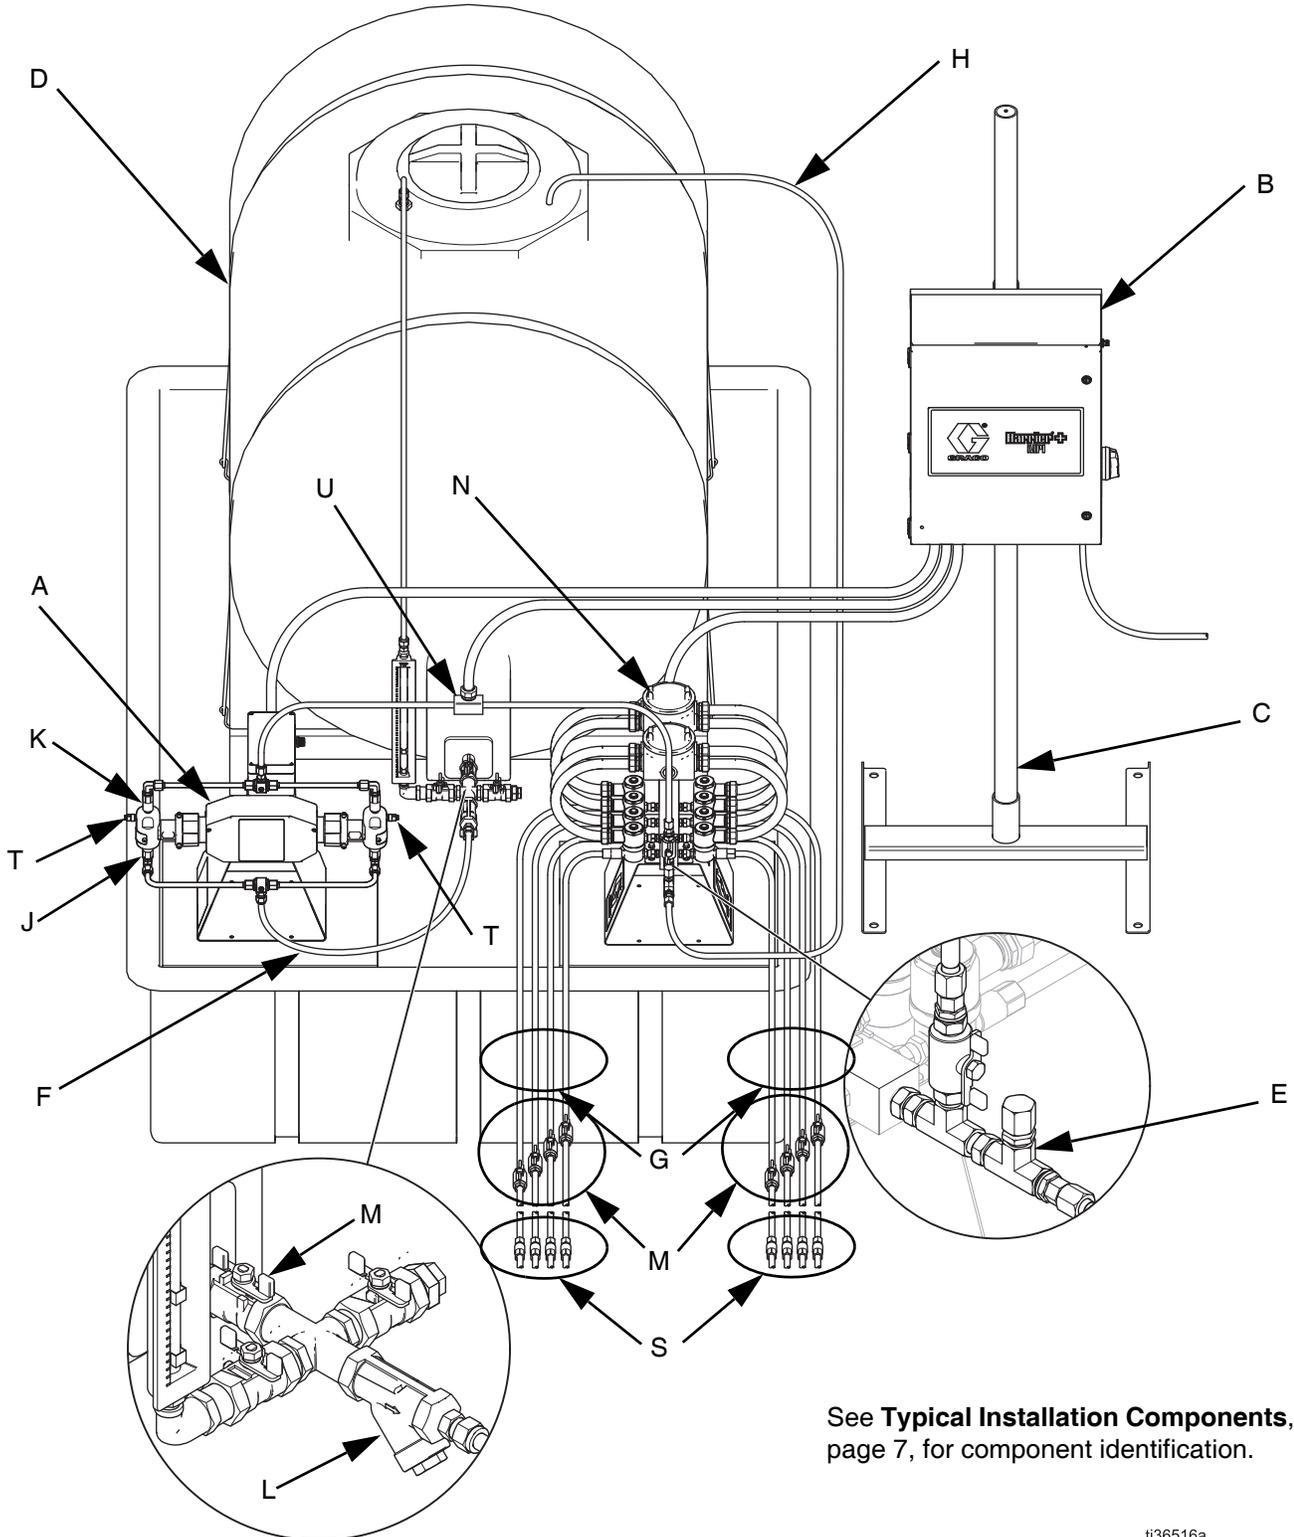

FIG. 2 Multiple-Point Injection System Layout
FIG. 2 is an example of an installation with a multiple-point injection valve manifold. Your installation may differ from what is shown here. The multiple-point valve manifold (N), the pump (A), and the control box (B) in FIG. 2 are supplied by Graco. All other components are supplied by customer.
- Select a location that will adequately support the weight of the valve manifold assembly (N).
- Refer to the stand (3) mounting hole layout provided in **Dimensions** on page 18.
- If you have a mounting configuration that requires installation in a manner different than depicted in FIG. 2, please contact your Graco distributor for assistance.
1. Disconnect power from the pump (A) and the valve manifold assembly (N). (See FIG. 2 on page 8.)
2. Shut off the inlet and outlet lines using the shutoff valves (M).
3. Slowly loosen each fitting connected to the solenoid valve manifold outlet check valves (8) to relieve downstream fluid pressure.
4. Open the bleed needle (18) by turning the needle counter-clockwise with a flathead screwdriver to relieve internal valve manifold assembly (N) fluid pressure.
5. Open the pump bleed valve (T).